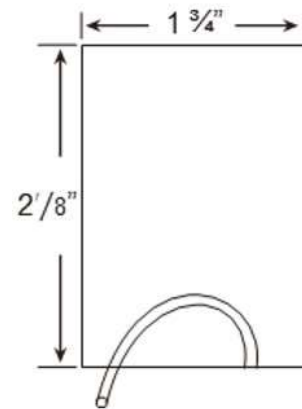

FIGURE 1: INSTALL HOLE
3. Cut a 2 7/8" by 1 3/4" hole in the wall. See Figure 1.